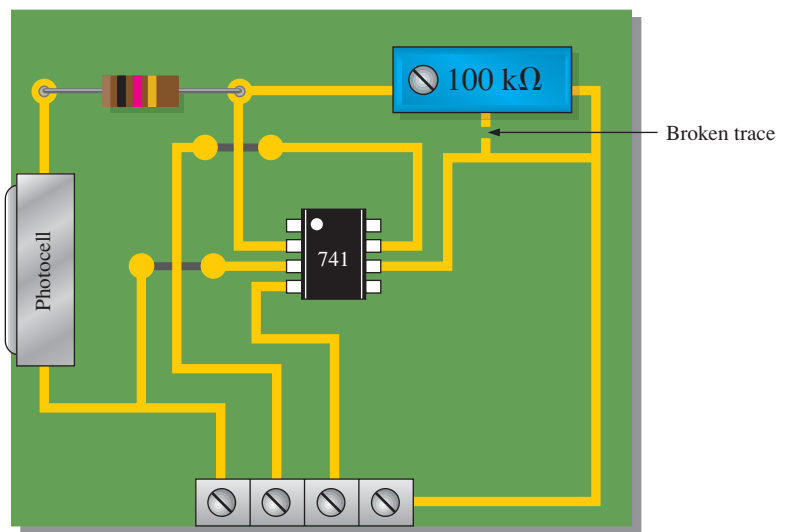

FIGURE 6-52
27. On the circuit board in Figure 6-52, what happens if the middle lead (wiper) of the 100 kΩ potentiometer is broken?